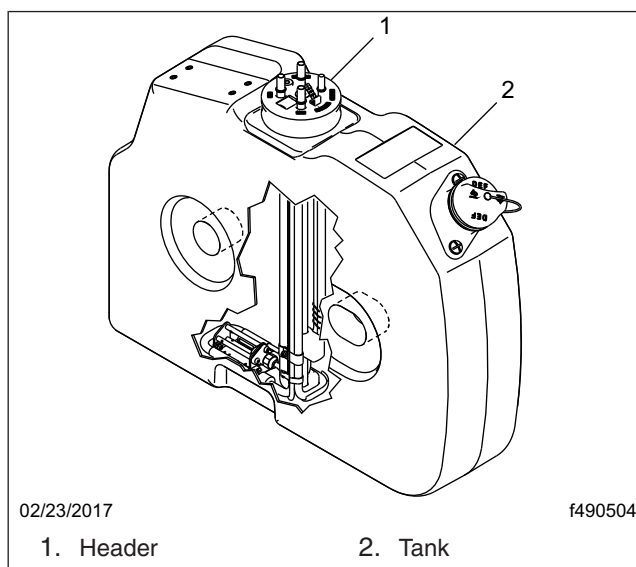

Fig. 1, 6-Gallon DEF Tank and Header Unit (January 2013 and later)
3. Remove the header unit from the DEF tank. See Fig. 1.